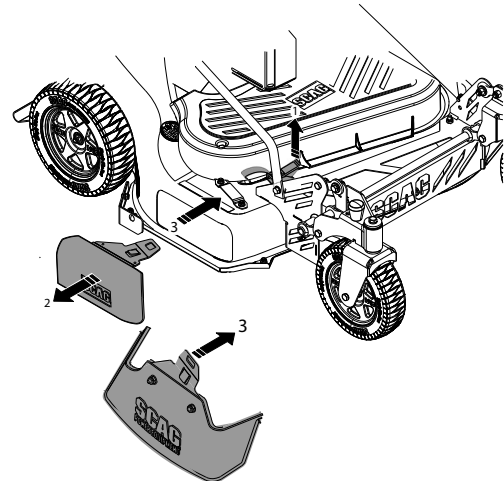

Figure 6-7. Side Discharge Conversion
1. Lift the rear cover and remove the rear discharge plug from the cutter deck. See Figure 6-7.
2. Reinstall the grass collection bag onto the mower. See Figure 6-7.
3. The discharge block off plate will need to be installed. See Figure 6-7.